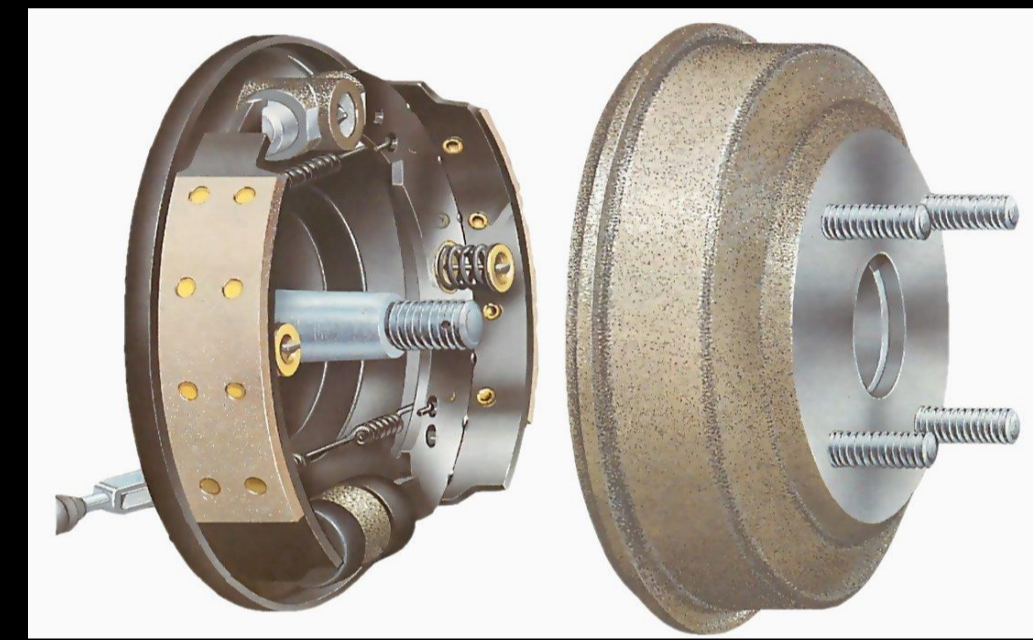

Figure 2: Simple drum brake design
- https://www.researchgate.net/figure/working-of-disc-brake_fig2_320627834